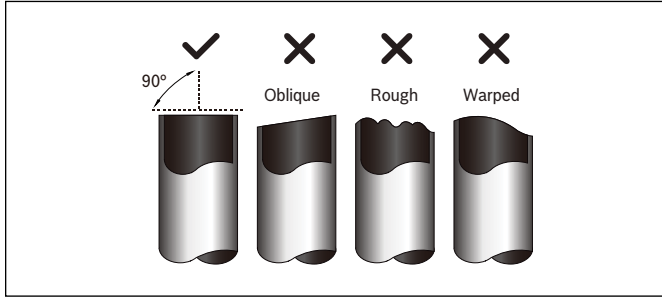

Figure 39
3. Make sure that the pipe is cut at a perfect 90° angle. Refer to Figure 39 for cut examples.